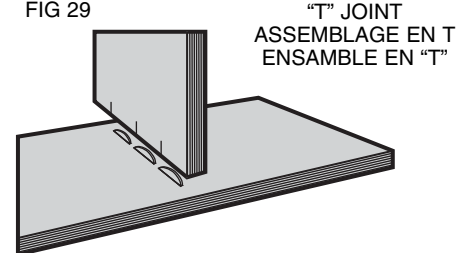

FIG 30
- Place the workpieces on a work surface exactly as you will be assembling them in the form of an upside down "T." Mark lightly along the joint where the top of the shelf is to end up (see Figure 30). Mark biscuit locations at the joint interface on the shelf piece only.